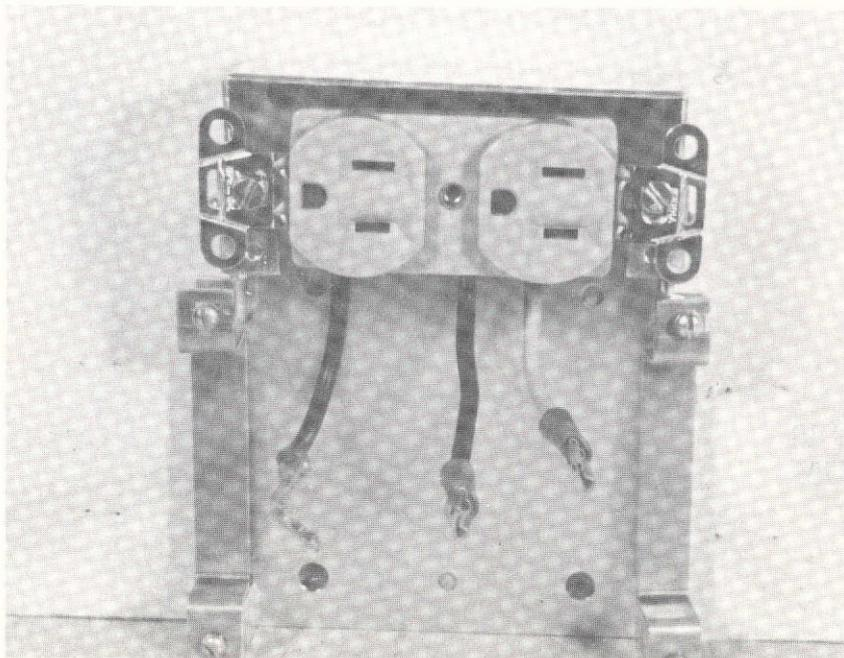

Figure 2. Receptacle Box Assembly
2. As in Figure 2, secure receptacle box assembly to the wall by sitting in an upright position on the floor and against the wall where marked. The assembly will be mechanically fastened to the wall. The type fastener will depend on the wall construction; however it is recommended that either a hollow wall anchor, nylon masonry anchor, or drywall screw be used. Three fasteners are recommended to secure each assembly.